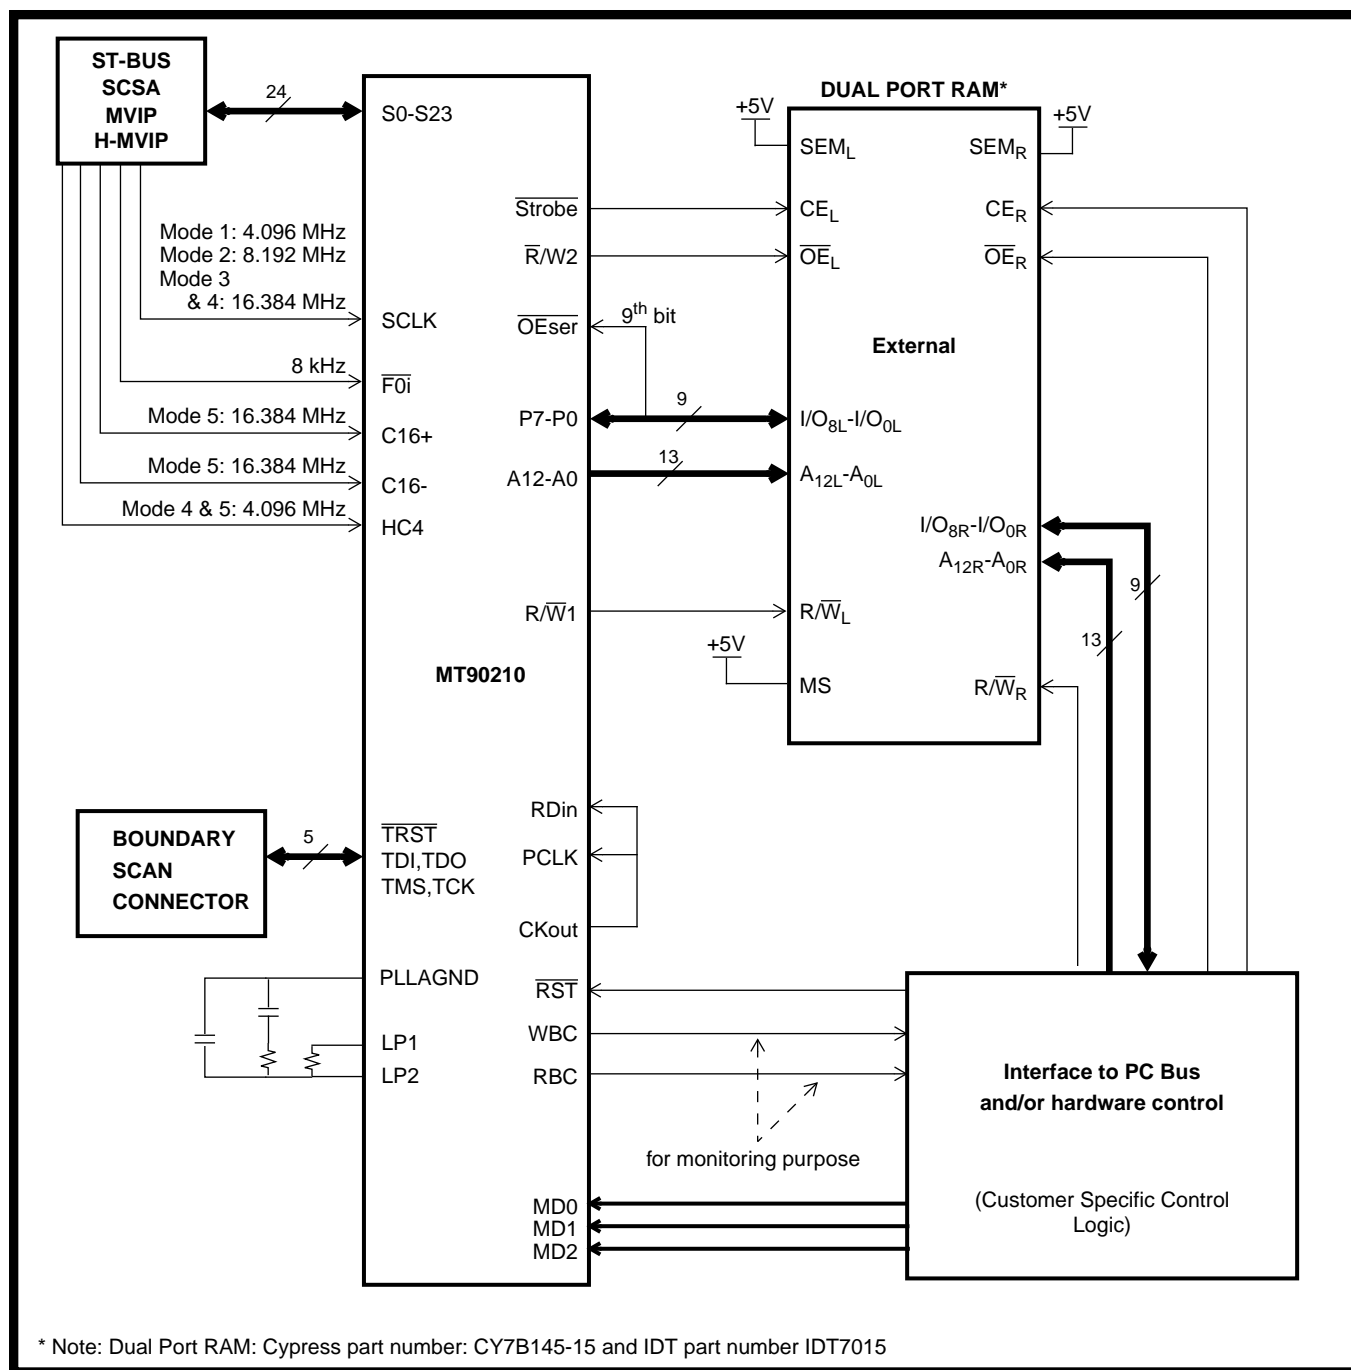

Figure 9 - Functional Example of the MT90210 Application Circuit
port RAM and connecting the ninth bit to \overline{OEser} as shown in Figure 9, the processor may disable an individual channel by setting the ninth bit for that channel in the transmit (TX) portion of the current block. The remaining 8 bits for this channel may be any value since they are ignored by the MT90210 when the ninth bit is 1. To avoid contention on the serial bus, it is recommend that the user configure all serial streams as inputs at start-up. This may be done by setting all \overline{OEser} bits to 1 in the TX portions of both memory blocks. In mode 3, the serial streams are permanently configured as 12 inputs and 12 outputs, and the state of \overline{OEser} is ignored.
provided by the MT90210: (i) the 24/2 mode in which all 24 lines operate at 2.048 Mb/s and (ii) the mixed rate of operation in which 16 streams operate at 2.048 Mb/s and the remaining 8 streams operate at 8.192 Mb/s data rates. When operating at 8.192 Mb/s rates, the MT90210 automatically terminates the C16+ and C16- differential clocks specified by the H-MVIP specifications. Figure 9 shows a functional block diagram of the MT90210 in a typical application.